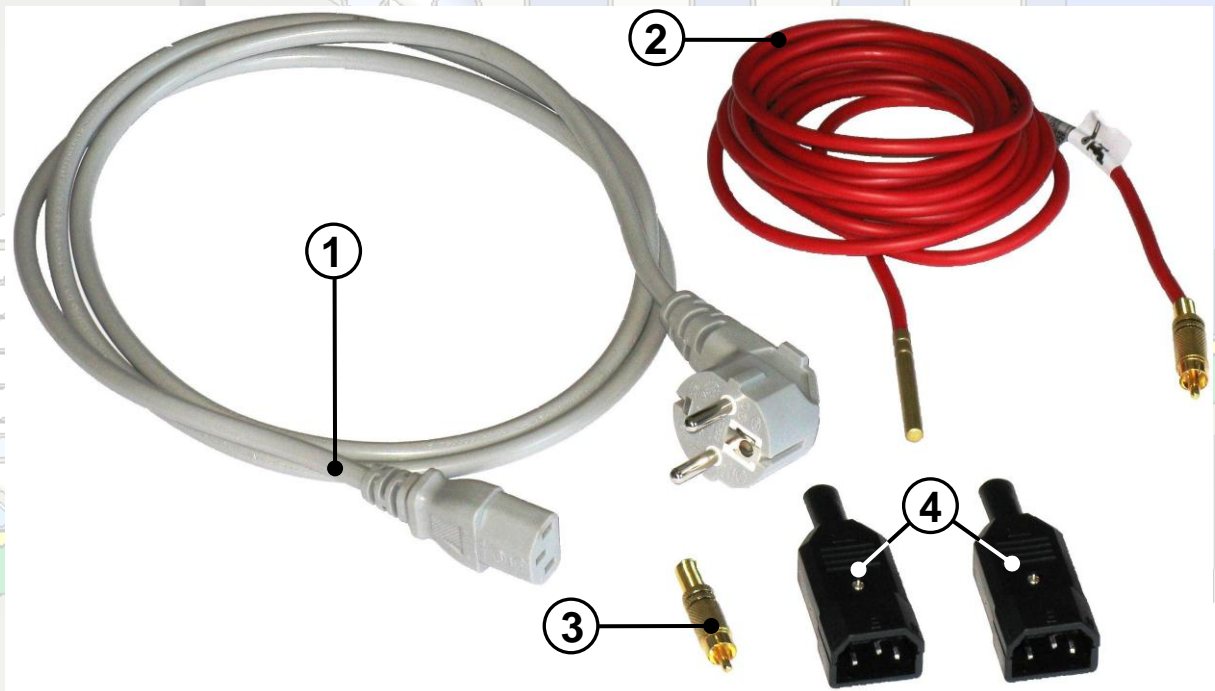
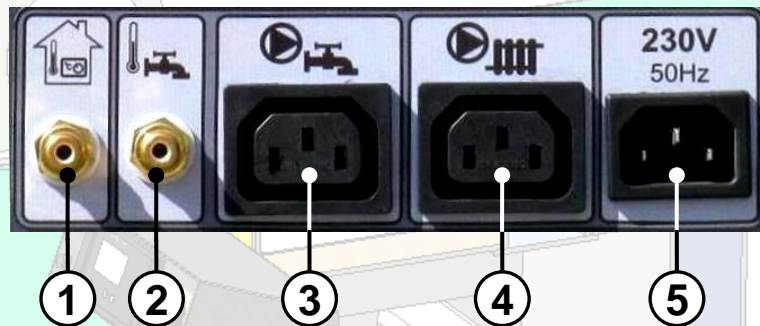

Fig.4. Additional accessories
Fig. 5. Connection sockets - on the controller side
Other parts used for connecting power supply and controller's auxiliary equipment are shown on fig. 4.
Fig. 5 shows the side wall of the controller containing sockets, which are used for connecting:
Boiler connection to the electric installation involves plugging one end of the power supply cable (item **(1)** fig. 4) into a socket marked as 230V~ 50Hz on the controller enclosure (item **(5)** fig. 5). The other end, terminated with a plug, shall be connected to the mains power receptacle.
The circulating pump of the central heating installation shall be connected to the socket (item (4) fig. 5) using a cable with cross-section of at least $3 \times 0.75 \text{mm}^2$. The pump cable shall be terminated with the computer-type power supply plug (item (4) fig. 4).
The pump, which charges the hot water reservoir shall be connected to the socket (item (3) fig. 5), using a cable with cross-section of at least $3 \times 0.75 \text{mm}^2$. Having finished with connections, the pump cable shall be terminated with the computer-type power supply plug (item (4) fig. 4). The hot water reservoir temperature sensor shall be connected to its input (item (2) fig. 5).
The room thermostat shall be connected to the socket (item (1) fig. 5) by terminating the cable with the RCA plug (item (3) fig. 4) included with the boiler. Operation of the controller when fitted with the local thermostat is described in the PLUM ecoMAX 200 regulator instructions.